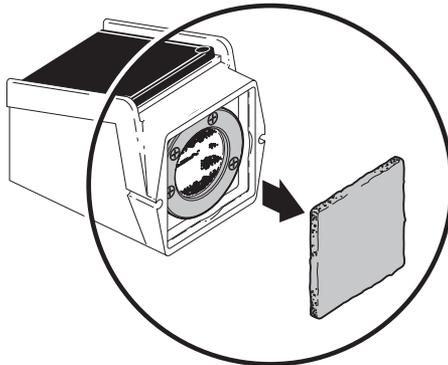

Figure 8-1. Remove Filter Foam
1. Remove and discard the Filter Foam—a new filter foam is provided in the Transducer Replacement Kit (Figure 8-1).